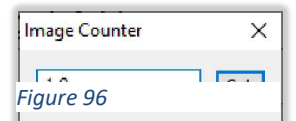

Figure 96
- h. Alternatively, if film has already been loaded, and the blip currently on screen is a known value, use the *Set* button to manually enter the *Image Counter* window. Type in the current mark value in the format *file.page (1.0)*, then click the *Set* button. *Figure 96*